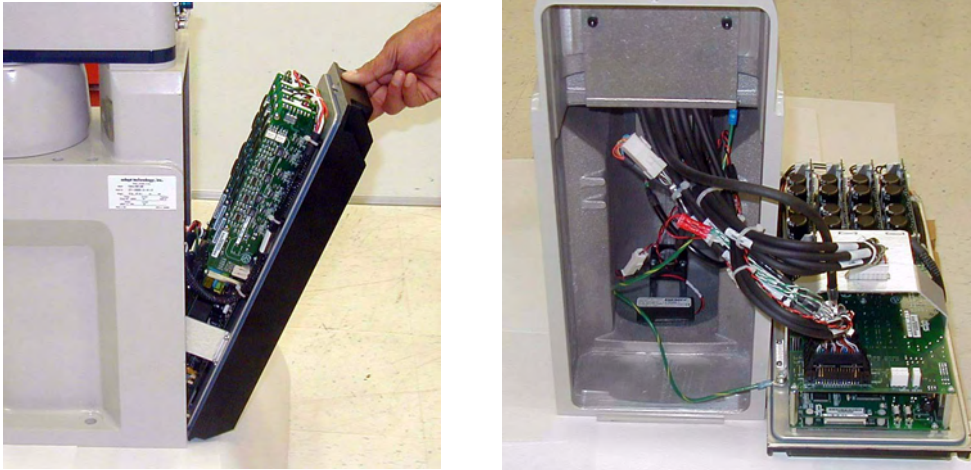
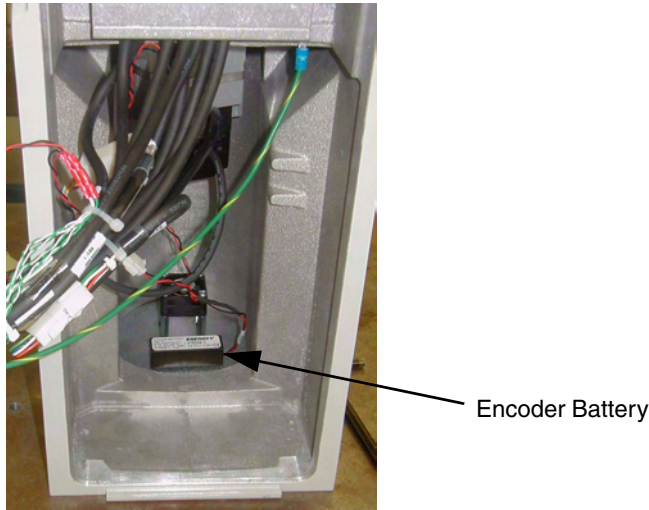

Figure 8-3. Opening and Removing AIB Chassis
Figure 8-7. Location of Encoder Battery
10. While holding the chassis heat sink, carefully and slowly lower the chassis down (see Figure 8-3 on page 152), so that enough access is available to remove the internal cables. The chassis can be laid flat or placed to the right side of the robot for better access.
8. While holding the chassis heat sink, carefully and slowly lower the chassis down (see Figure 8-3 on page 152), so there is access to the battery. See Figure 8-7.